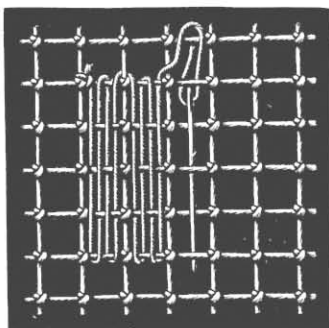

Fig. 15. Linen stitch
**Linen stitch** (figs. 15, 16, 17, 18).